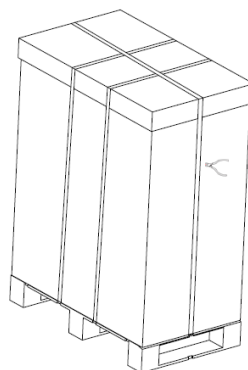

Fig. 1-1 Removing the fastening tapes
3. Hold the sliding plate steady. Cut and remove the binding tapes (Fig. 1-1).